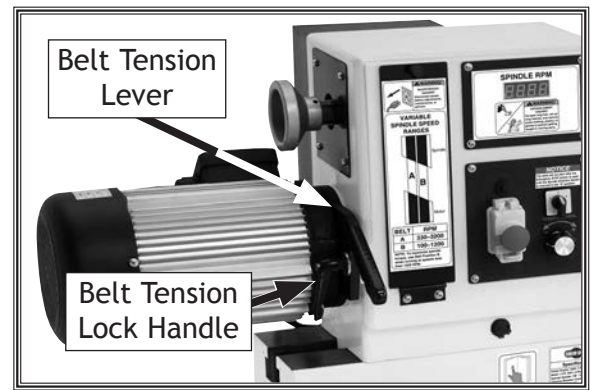

Figure 30. Motor tensoning handle and tension lock handle.
3. Loosen belt tension lock handle (see Figure 30).
4. Use belt tension lever (see Figure 30) to lift motor assembly all the way up, then re-tighten belt tension lock handle—this will hold motor in place while you change belt position.